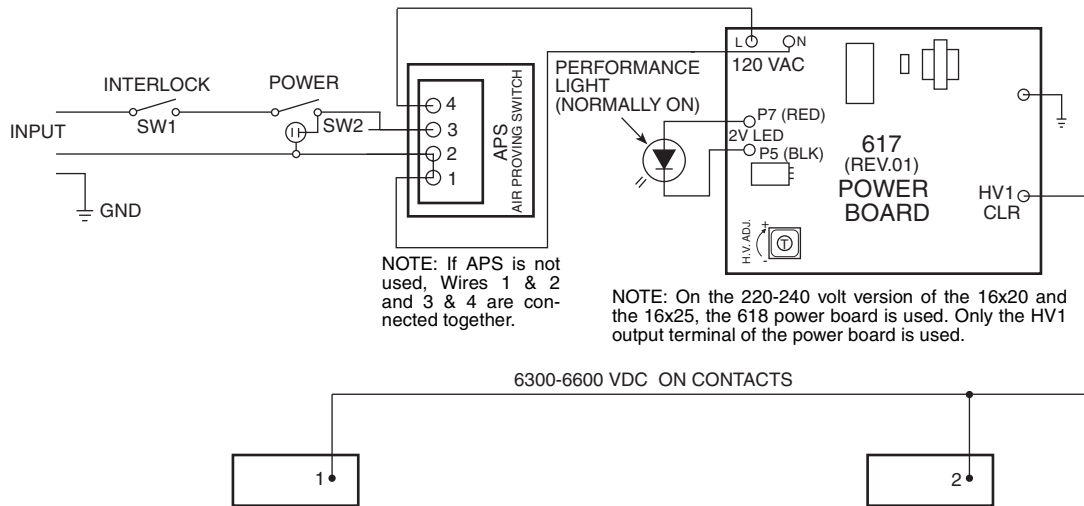

Fig. 4 — Electronic Air Cleaner Wiring — P102-12 and P102-14A Units
Wire the electronic air cleaner directly to the 120-v power source. The APS will power the electronic air cleaner when there is sufficient airflow to activate the sensor. See Fig. 4 and 5.
1. Disconnect wiring from terminals 1, 2, 3, and 4 on the APS. See Fig. 4 and 5.
4. Connect wiring to terminals on APS. See Fig. 4 and 5. Wiring from power source is connected to terminals 2 and 3. Wiring to power board is connected to terminals 1 and 4.
5. Connect the wiring to the LED terminals on the power board. See Fig. 4 and 5.
2. Disconnect wiring from the LED, HV1, and 120 VAC power board terminals (P102-12 and P102-14A) or LED, HV1, HV2, and 24 v terminals (P102-14B and P102-20) and ground. See Fig. 4 and 5.